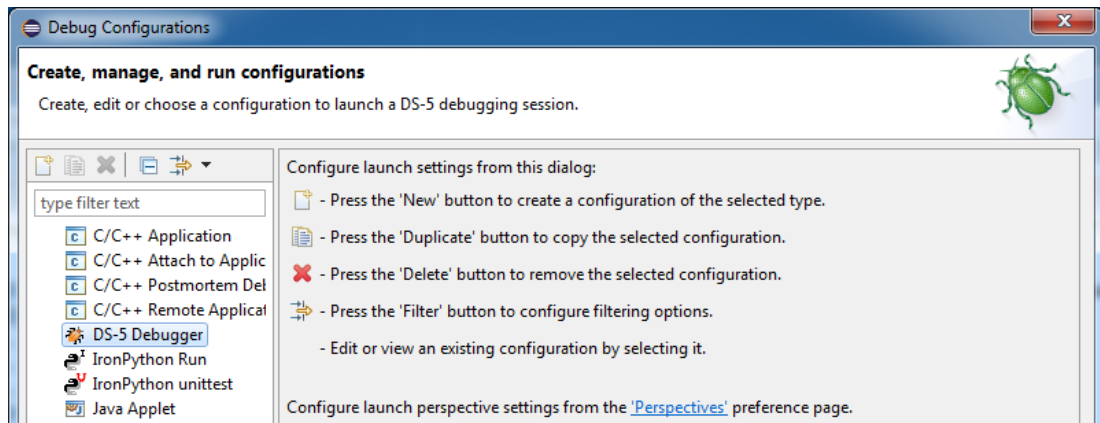

Figure 6 - Debug Configurations
1. Go to Run → Debug Configurations and select DS-5 Debugger as shown in Figure 6.